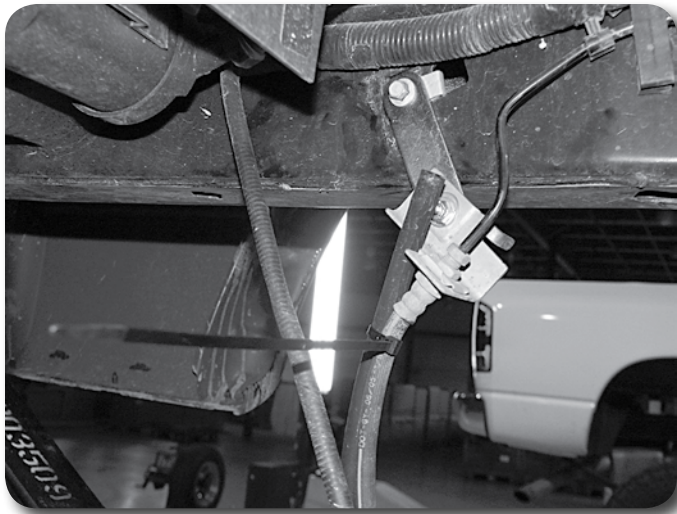

Figure 39
85. Install the provided brake line relocation bracket to the driver's side frame rail with the brake line bracket bolt (Figure 39). Torque to 15 ft-lbs.